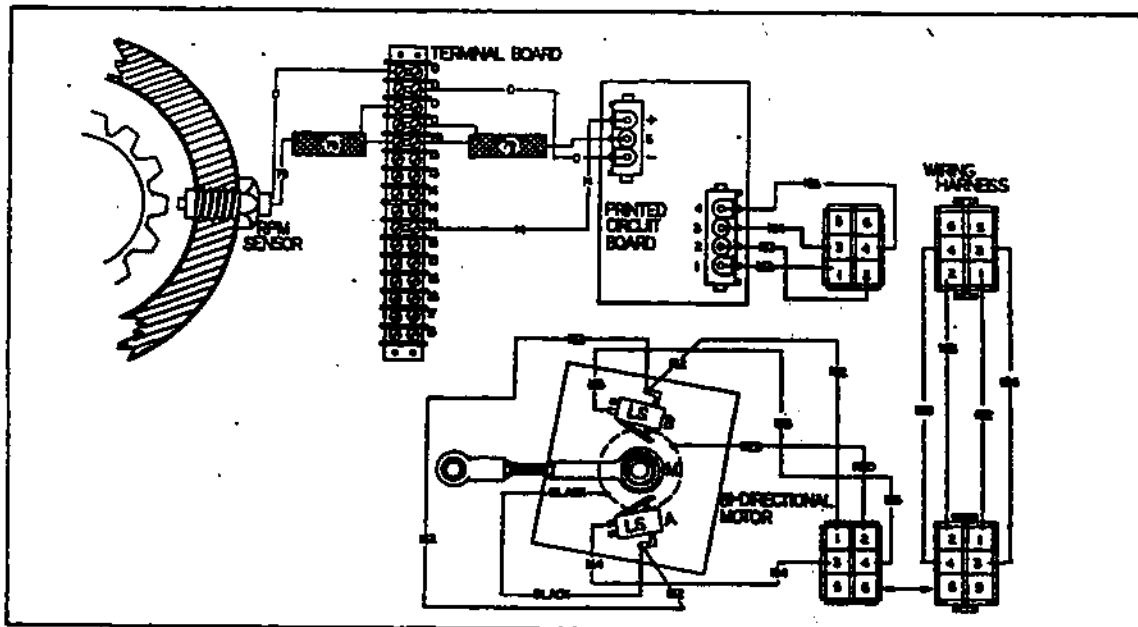

Figure 4.5-A. Throttle Droop Override Positioner Components
4.5.1- GENERAL (Figure 4.5-A)
4.5.2- POSITIONER OPERATION (Figure 4.5-A)